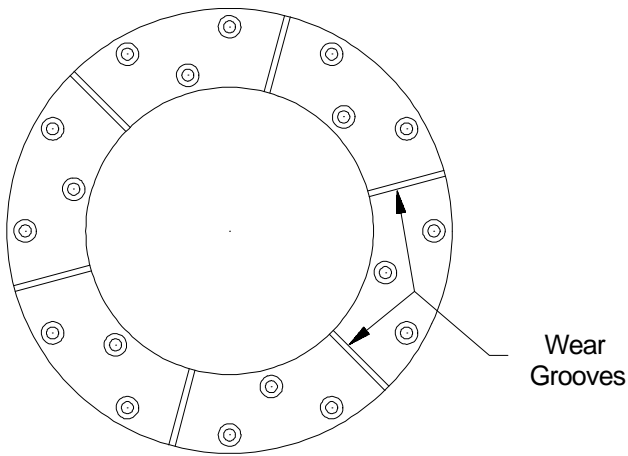
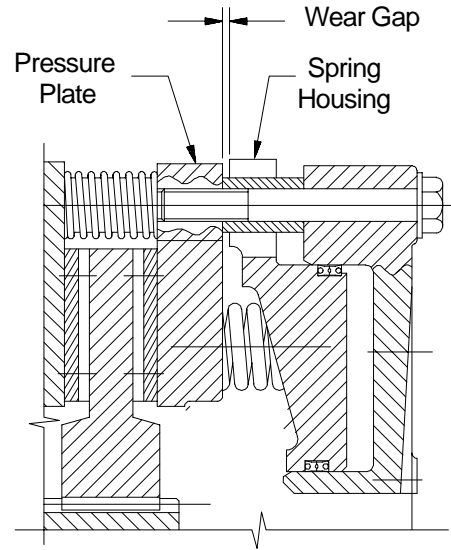

Figure 8
Figure 9
On single and dual disc units, the friction material must be replaced when worn to the bottom of the groove on the friction lining. See Figure 8. On dual disc brakes, however, a wear adjustment is required when the friction material is approximately one-fourth worn. To determine when adjustment is required, measure the gap between the spring housing (16) and the pressure plate (14) with the brake engaged, as shown on Figure 9. If the measured gap exceeds the limits shown on Table 11 AND none of the friction discs are worn to the bottom of the wear groove, adjust the brake per the following procedure.
Note: Friction disc replacement is required when worn to the bottom of the wear groove, as indicated in Figure 8, or if oil or grease have contaminated the surface.